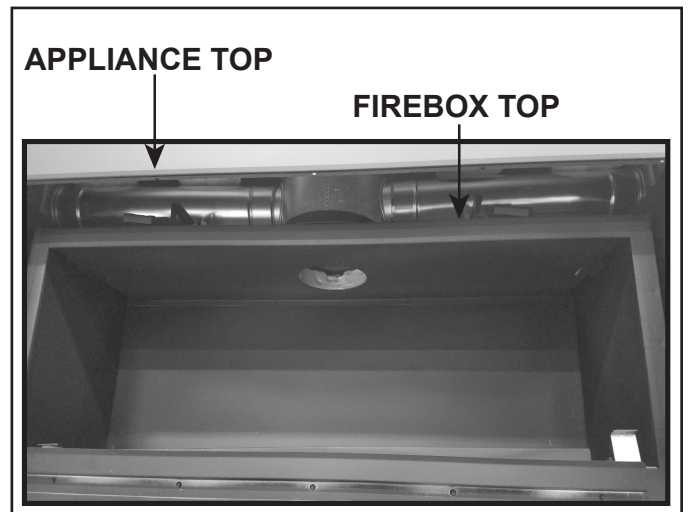

Figure 16
8. Inspect for and remove all debris that may have accumulated or objects that may have been placed on the firebox top and appliance top during the installation process. All debris and objects must be removed prior to operation of the appliance. Firebox top and appliance top are shown in Figure 16.